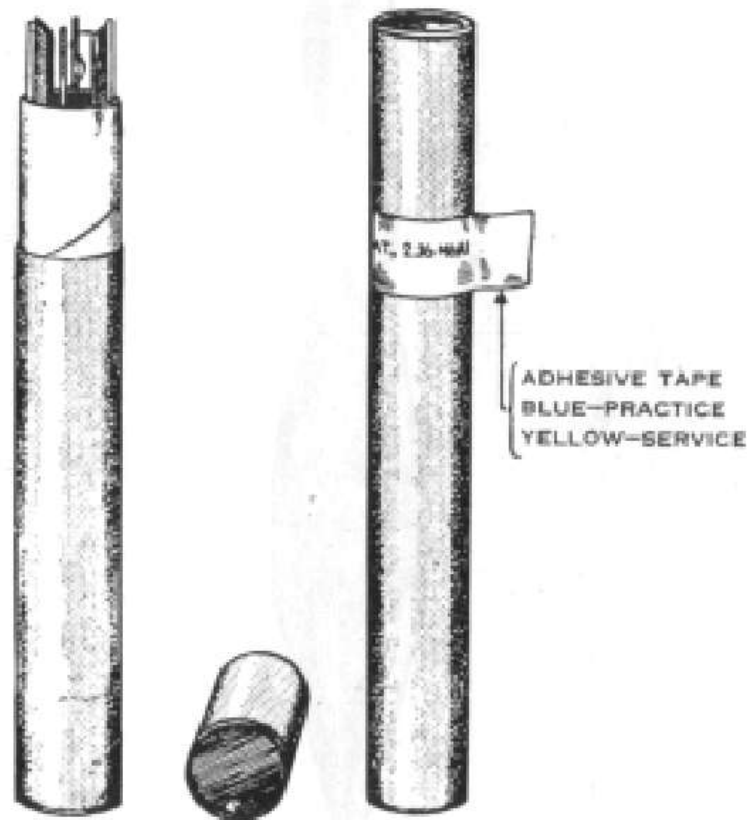

Figure 54. Packing container.
72. PACKING (fig. 54). Rockets are packed one per fiber container. Each fiber container is sealed with a strip of adhesive tape (yellow for the M6A1 or M6A3, and blue for the M7A1 or M7A3, practice) printed with the type and model of the rocket. Twenty such containers are packed to the wooden box, weighing approximately 128 pounds.